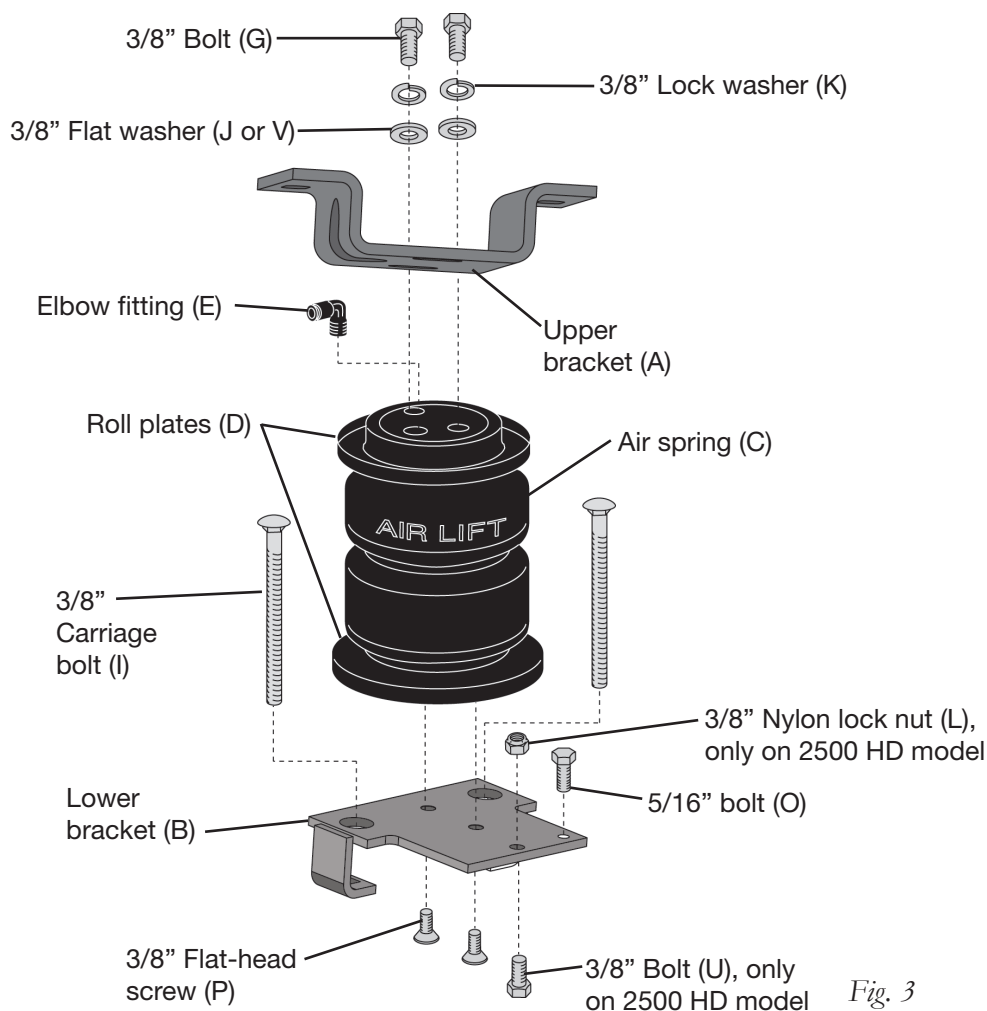

Fig. 3
1. Set a roll plate (D) on both ends of the air spring (C). The radiused (rounded) edge of the roll plate will be toward the air spring, enabling the air spring to be seated in both roll plates (Fig. 3).
2. Install 90-degree elbow fitting (E) to the top of the air spring. Tighten finger-tight plus 1 1/2 turns. Be careful to only tighten on the metal hex nut. Do not overtighten (Fig. 3).
3. Install the upper bracket (A) onto the air spring assembly. Use slot "A" when installing on the driver's (left) side and use slot "B" when installing on the passenger's (right) side. Attach using two 3/8" bolts (G), lock washers (K), and flat washers (J or V). Leave the bolts loose at this time (Figs. 3 & 4).
4. **Driver's side only:** Insert a 5/16" bolt (O) into the small hole on the lower bracket (B) before attaching the lower bracket to the air spring assembly (Fig. 3).
5. **2500 HD models only:** Install a 3/8" bolt (U) and lock nut (L) through the hole in the lower bracket (Fig. 3) with the head of the bolt facing down. Tighten securely.
6. Insert two 3/8" carriage bolts (I) through the large holes and into the square holes of the legs in the lower bracket (Fig. 3).
7. Attach the lower bracket (B) to the bottom of the air spring assembly using two 3/8" flat-head screws (P). Tighten securely.